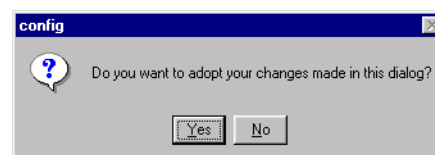

Figure C.4 - Save changes confirmation window
6. A confirmation window appears (Figure C.4). Click **Yes**.